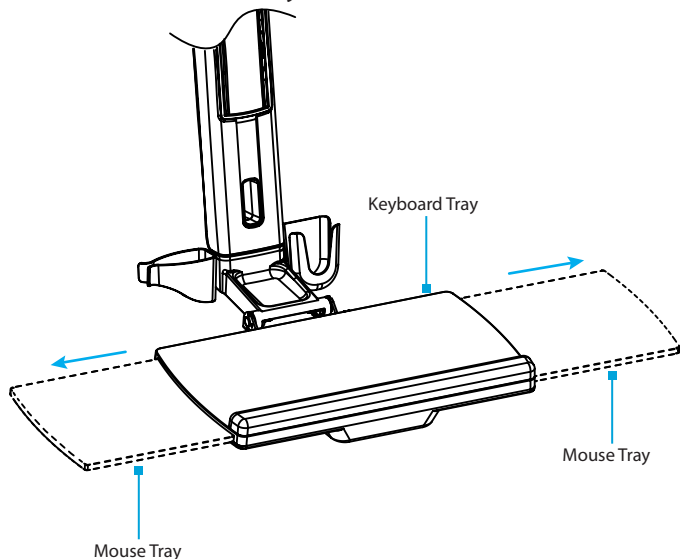

Figure 30
1. Extend the **Mouse Tray** by on the underside of the **Keyboard Tray** by pulling it either to the **Left** or **Right**. (Figure 30)